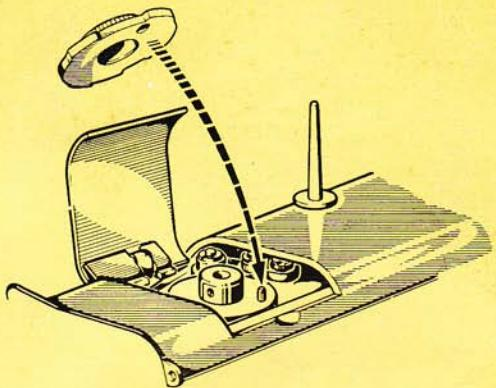

Fig. 39
- b) Insert desired cam onto the rotary shaft so that the mark pivot slips into the corresponding hole of the cam (fig. 39).